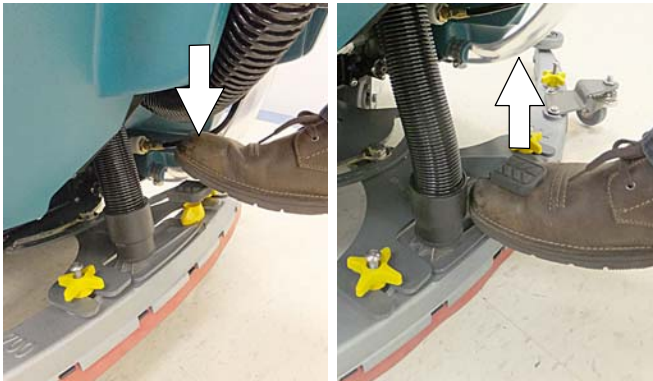

FIG. 76
- Lower the squeegee assembly to floor by stepping on foot pedal (Figure 76). To raise squeegee assembly, place foot under foot pedal and lift. The vacuum motor will automatically start when squeegee is lowered to floor.